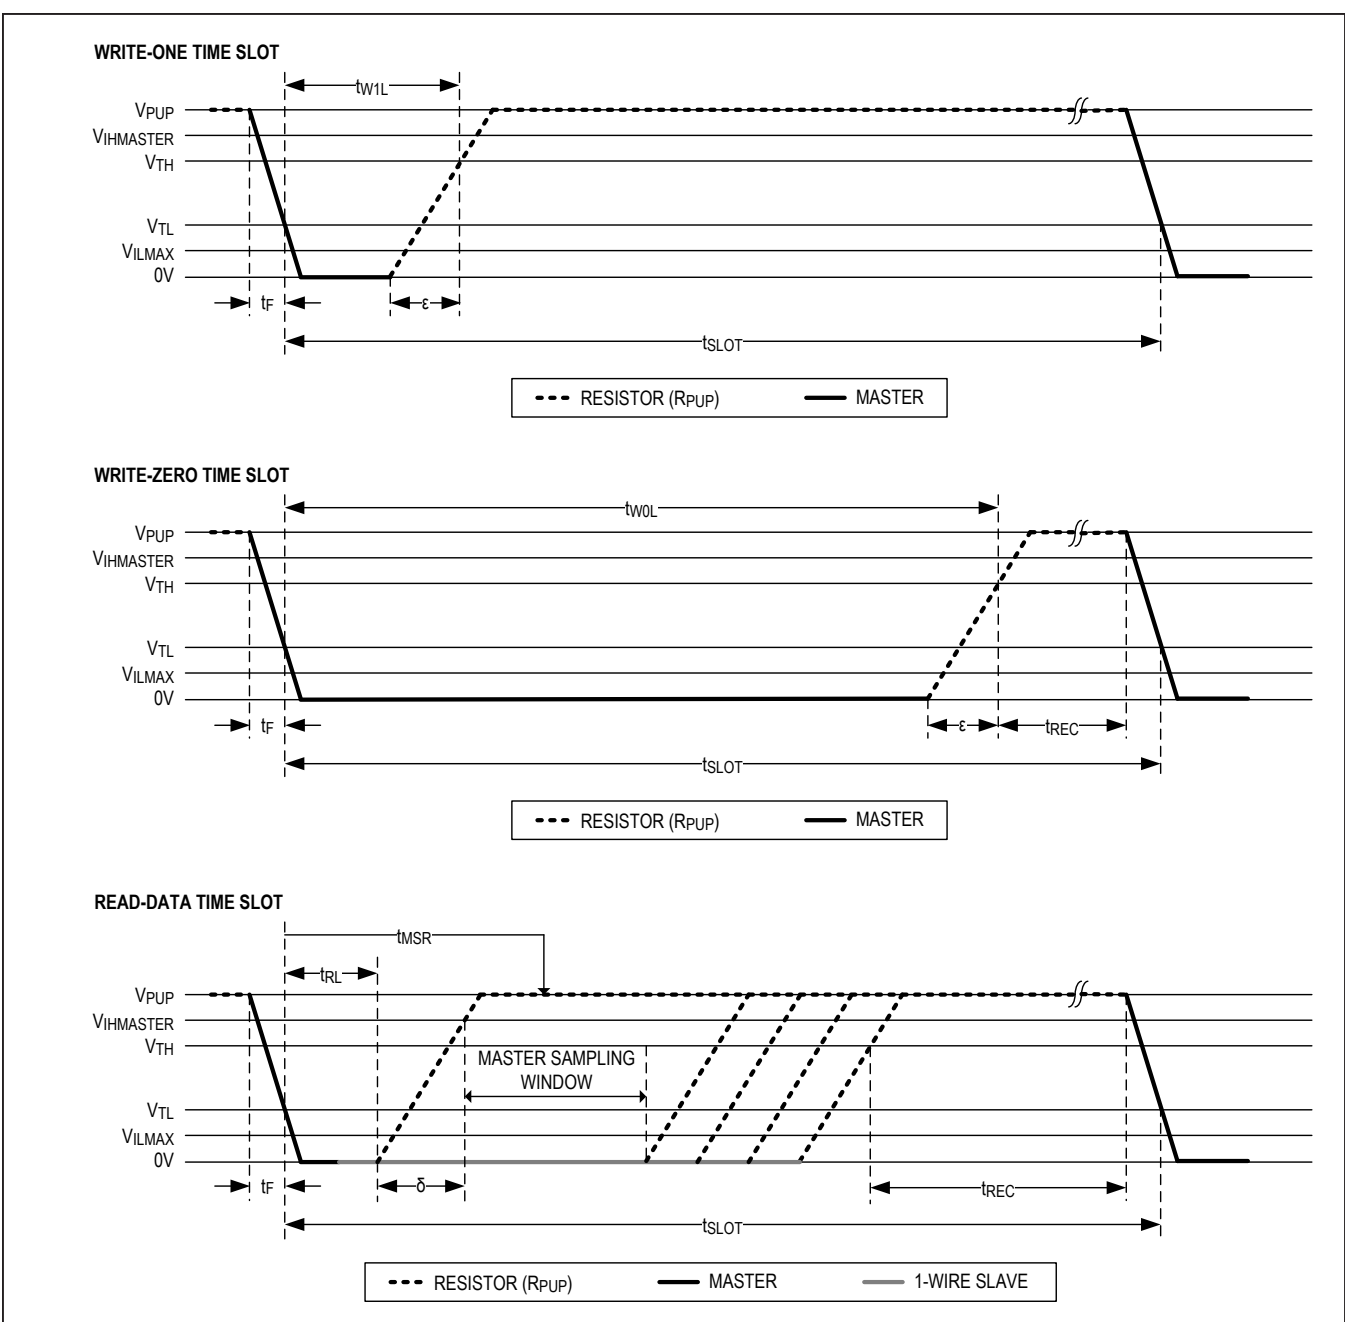

Figure 4. Read/Write Timing Diagrams
- Note 13:** System requirement. ϵ in Figure 4 represents the time required for the pullup circuitry to pull the voltage on IO up from V_{IL} to V_{TH} . The actual maximum duration for the master to pull the line low is $t_{W1LMAX} + t_F - \epsilon$ and $t_{WOLMAX} + t_F - \epsilon$, respectively.
- Note 14:** System requirement. δ in Figure 4 represents the time required for the pullup circuitry to pull the voltage on IO up from V_{IL} to the input-high threshold of the bus master. The actual maximum duration for the master to pull the line low is $t_{RLMAX} + t_F$.
Data communication with the DS28E50 takes place in time slots that carry a single bit each. Write time slots transport data from bus master to slave. Read time slots transfer data from slave to master. Figure 4 illustrates the definitions of the write and read time slots.